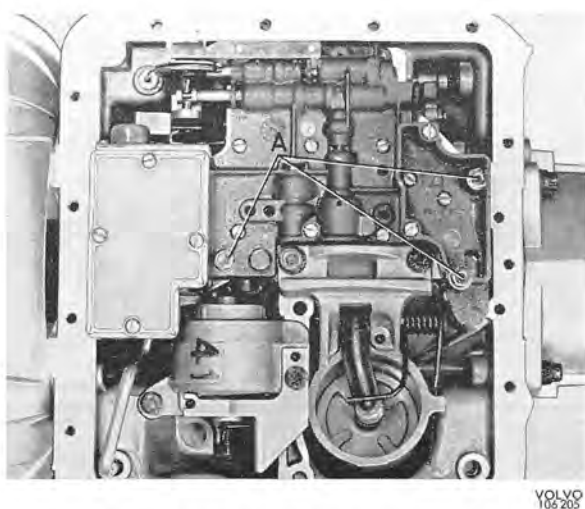

Fig. 4-81. Valve bodies assembly
4. Disconnect the downshift valve cable from the downshift valve cam. Unscrew the three screws which retain the valve bodies assembly to the transmission housing, see Fig. 4-81. Lift the valve bodies assembly straight up so that it releases from the oil tubes at the front end.